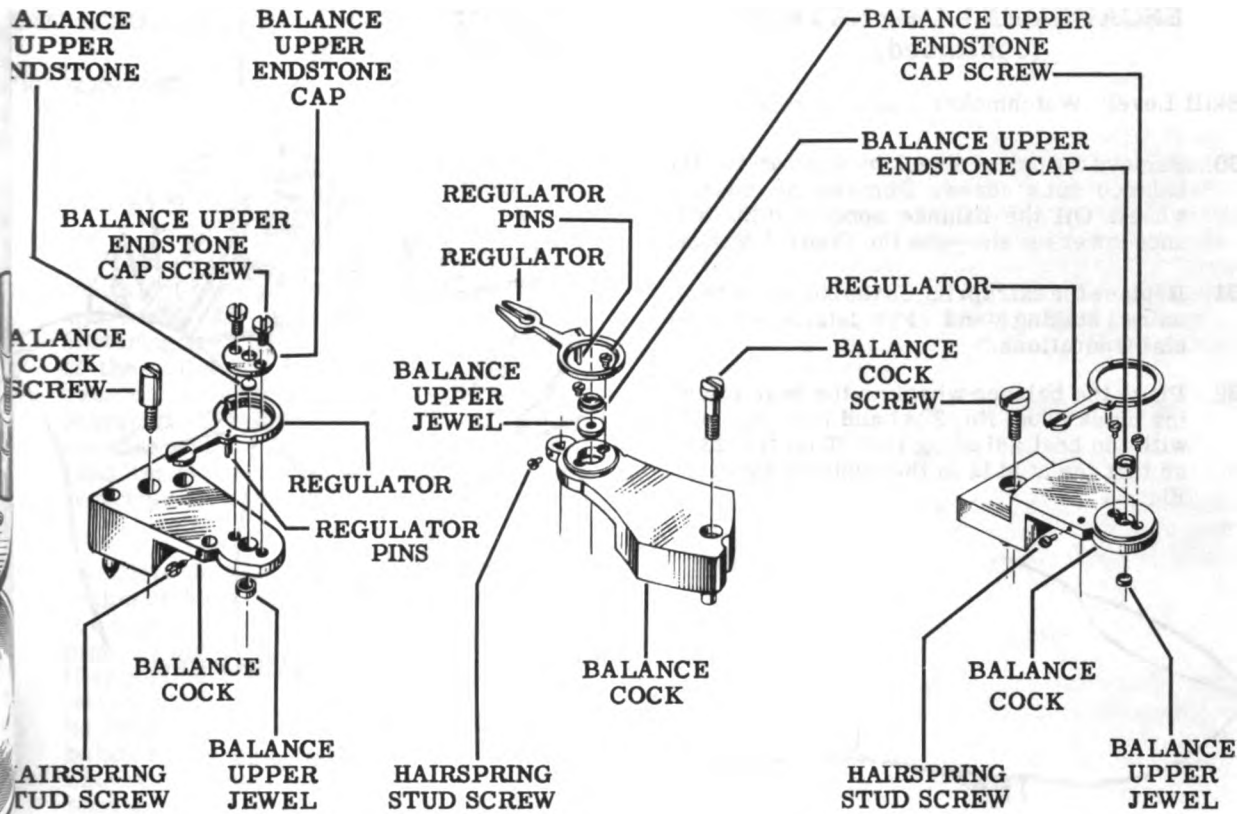

Figure 83—Escapements
22. Remove the balance upper endstone cap from the balance cock by unscrewing the two cap screws. See Fig 83. Peg out the balance upper jewel and check it for cracks, breakage or possible wear. Check the endstone. Replace the endstone cap and mount it in position with its two screws. Press the regulator into position.